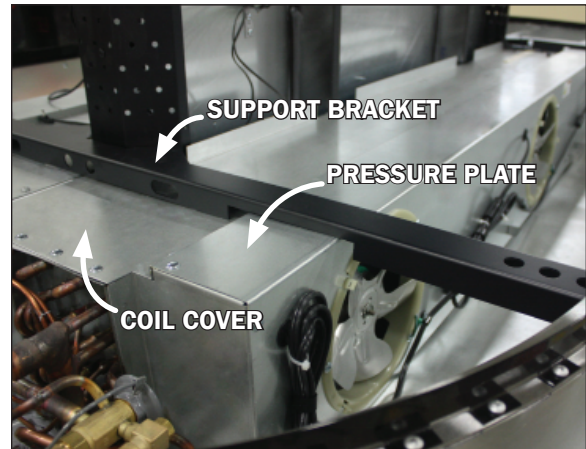

Fig. 11 Support brackets, pressure plate and coil cover
2. To remove the pressure plate and access the underside of the fans first remove the support brackets (Fig. 11). There will be one at each end of the case. There are eight